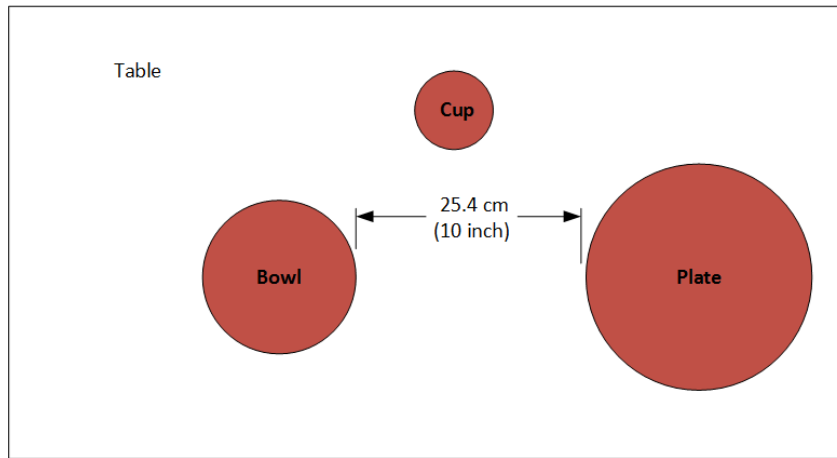

Fig. 2. A half-full bowl with peas and an empty plate and a cup are placed on a table
1. A 15.2 cm (6 in) bowl is half-full with green peas on Table (Figure 2)